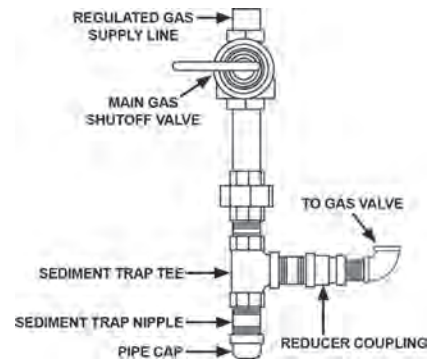
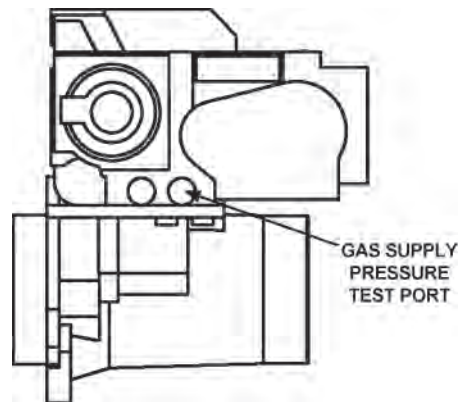

FIGURE 21.
FIGURE 22. – TOP VIEW
To trap any dirt or foreign material in the gas supply line, a sediment trap must be incorporated in the piping (see Figure 21). The sediment trap must be readily accessible and not subject to freezing conditions. Install in accordance with recommendations of serving gas suppliers. Refer to the latest version of the National Fuel Gas Code.
- For test pressures exceeding 1/2 psi (3.45 kPa) disconnect the water heater and its Main Gas Shutoff Valve from the gas supply piping system during testing, see Figure 21. The gas supply line must be capped when disconnected from the water heater.
1. Close the Main Gas Shutoff Valve, see Figure 21 on page 23.
3. Close the Main Gas Shut Off Valve, see Figure 21 on page 23.
4. Wait five (5) minutes for any residual gas to clear.
5. Open the Supply Gas Pressure Port on the gas valve by turning the center screw counter-clockwise. Connect the manometer to the supply gas pressure test port, see Figure 22.